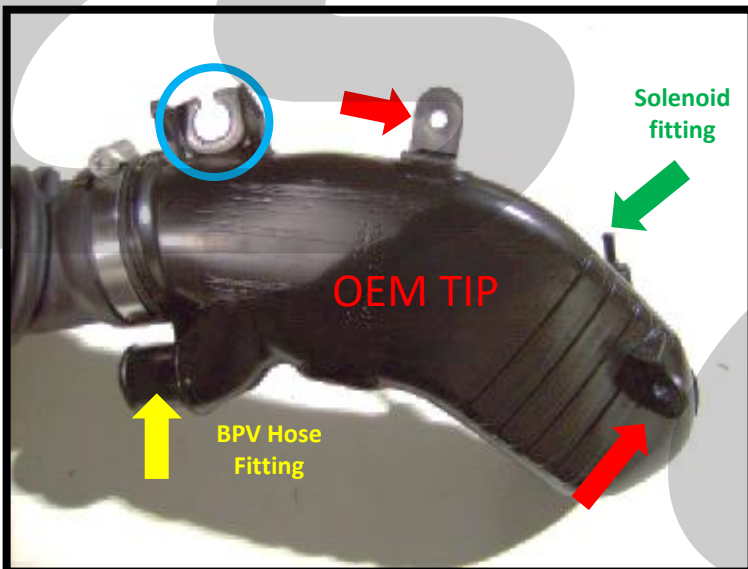

Figure 3b
- b) **Remove the 10mm nut that holds the stock turbo inlet pipe in place (blue circle in Figure 3b).**
- c) **Remove the two wiring harness clips (red arrows in Figure 3b) located on the stock turbo inlet pipe.**
- d) Using needle nose pliers, release the small spring clamp from solenoid fitting on the OEM TIP (see the green arrow in Figure 3b on the previous page). Then remove the small hose from this same fitting.